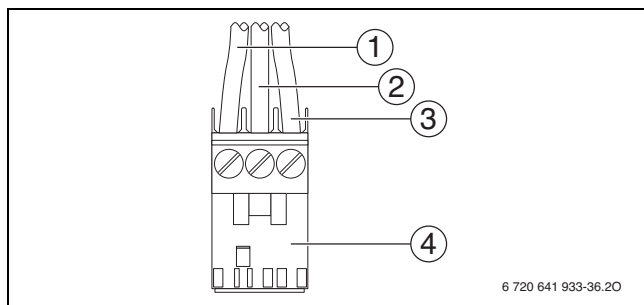

Fig. 51 Attach plug (mains power supply)
- Connect cable to the **white plug** according to Fig. 51.
- Connect the lead labelled BOILER GROUND (green) to pin 2 (center, → Fig. 51 [2]) of the white plug in the boiler junction box.